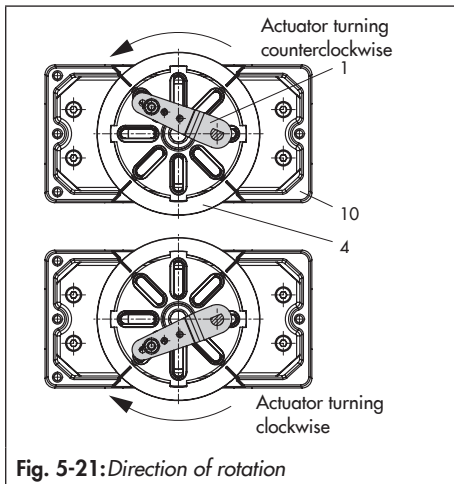

Fig. 5-21: Direction of rotation
- Place positioner on housing (10) and screw it tight. Taking the actuator's direction of rotation into account, adjust lever (1) so that it engages in the correct slot with its follower pin (Fig. 5-21).